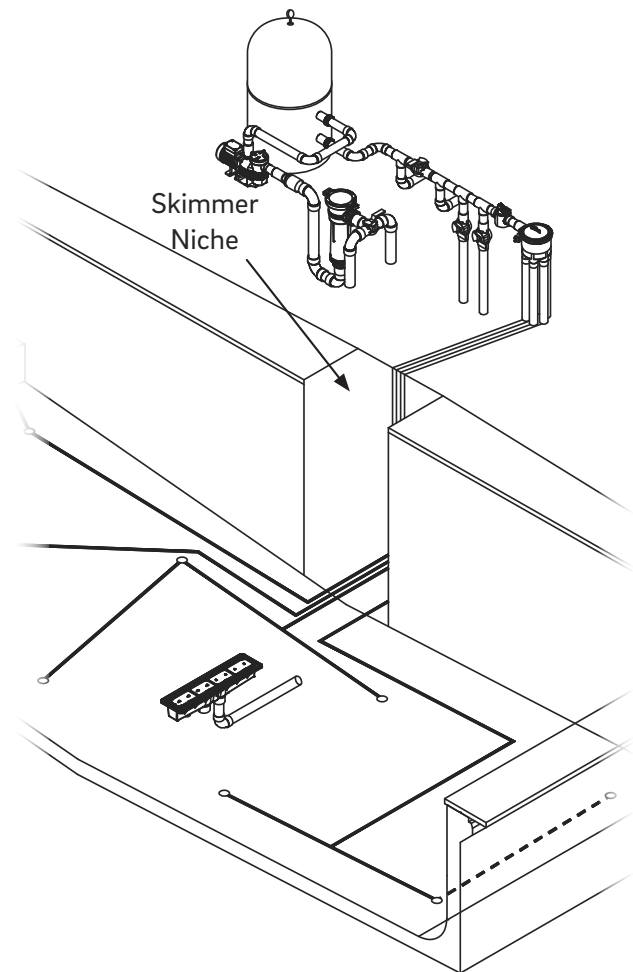

Figure 2
2. When starting the plumbing for the in-floor feed lines, begin by plumbing down the skimmer niche and follow the trench to the first zone (Figure 2). It is important that the pipes be plumbed as close to the back of the skimmer niche as possible, as this will aid in the placement of the steel and ensure maximum strength of the shotcrete in this area.